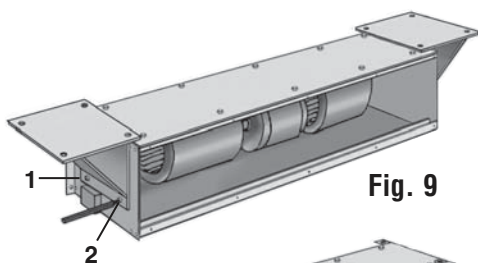

Fig. 9
2. One side at a time, place an Extension Bracket on the top side of the unit and align the top mounting holes with the mounting holes on the the unit. Temporarily place a bolt into each mounting hole to steady the bracket while you mark the two (2) bottom holes. Repeat this procedure on the other side of the unit. (See Fig. 9)